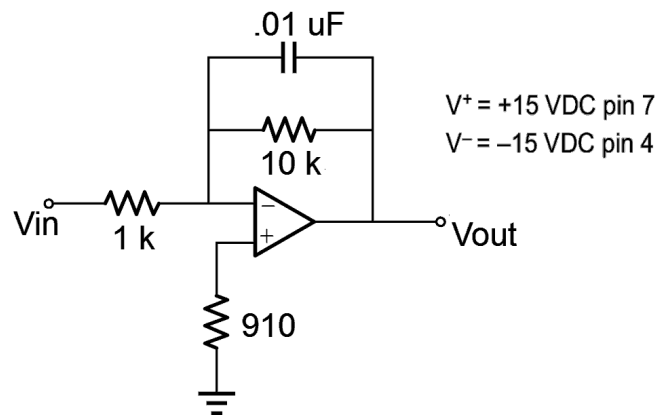

Figure 1
1. Derive the equation for  $V_{out}$  for the circuit of Figure 1. Calculate the lowest usable (“integratable”) frequency,  $f_{low}$ . Record these items in Table 1.